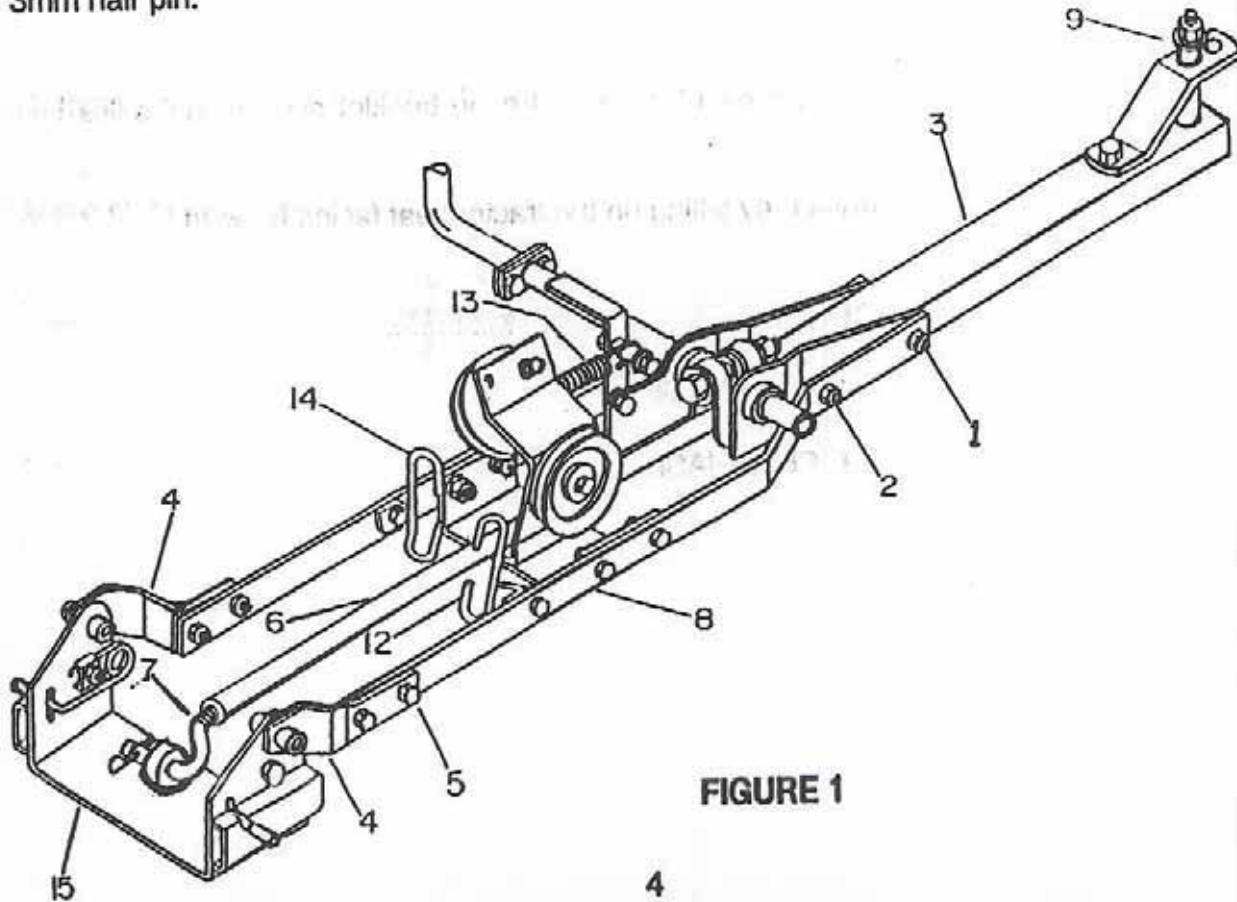
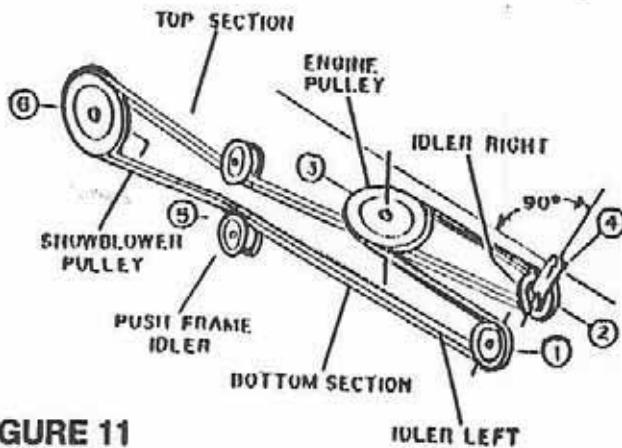

FIGURE 1
FIGURE 11
- a) Unfold the subframe by loosening the two bolts (fig. 1, item 2), place the channel (item 3) in straight position and install two 7/16 X 1 1/4" bolts (item 1), locks and nuts. Do not tighten yet. Extend the front portion (item 4) by loosening the bolts (item 5) and insert two bolts 3/8 X 1" with nuts. Secure the four bolts loosely. Adjust the overall length of push arm on garden tractor to 32 3/16", and on the lawn tractor to 32" by screwing the adjusting rod (item 7). Place the adjusting rod on the support pivot hitch hole (item 15) and secure with 3mm hair pin.
IMPORTANT: Place the subframe on a flat surface to be sure the channel (fig. 1, item 3) and the under portion of the front attaching bracket (item 4) are in line with the flat bars. Tighten all bolts securely.
- f) Route the snowblower drive belt in the subframe inside left belt guide (fig. 1, item 12), around the "V" idler pulley (fig. 11, item 1), inside the right belt guide (fig. 1, item 14), around "V" idler pulley (fig. 11, item 2) and around the tractor drive pulley (fig. 11, item 3).
NOTE: Be careful the left V-belt section between the two pulleys (fig. 11, item 6 and 1) is not twisted.